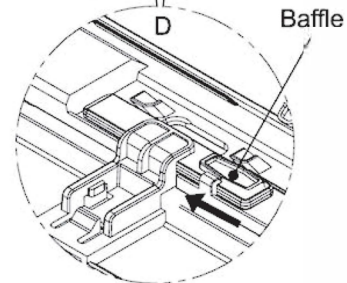

Fig.C.7.5
4) In the C position, open the front shell as shown in Fig. C.7.4. Then in the D position, push the baffles to prevent the front shell from falling as shown in Fig. C.7.5.